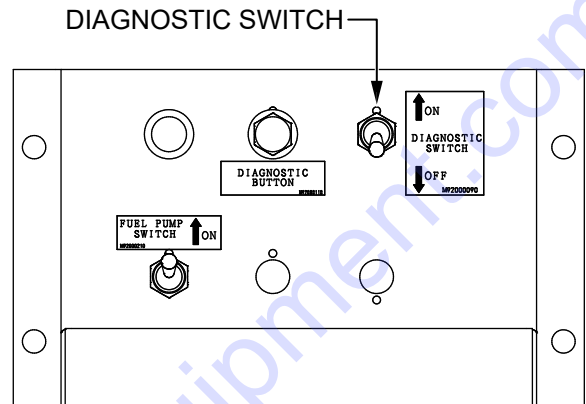

Figure 42. Diagnostic Switch (OFF Position)
3. Make sure the **Diagnostic switch** (located inside the control box) is placed in the **OFF** position. See Figure 42. Make sure the control panel is closed properly before proceeding.